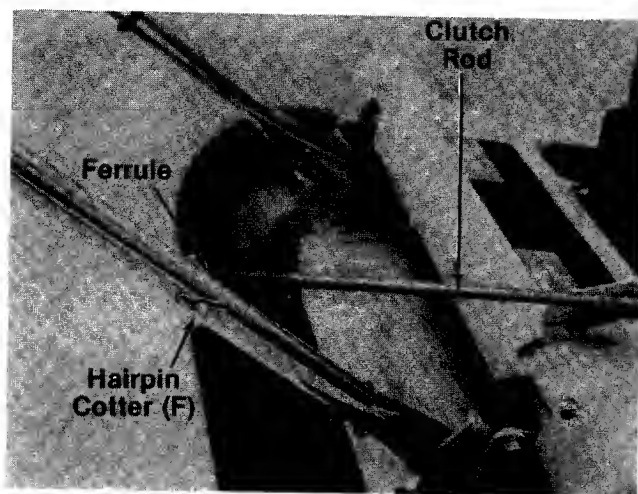

FIGURE 11.
20. Pivot the clutch rod back. Raise the handle slightly and thread the ferrule onto the clutch rod until the ferrule lines up with the hole in the lower handle. Secure ferrule in handle with hairpin cotter (F) as shown in figure 11.
The drive pinions should be approximately  $1/16''$  from the drive wheels when the clutch is disengaged (handle is **not** pushed forward). Refer to figure 11.